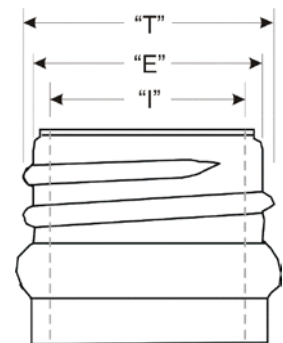

Figure 3: Finish
- For plug inspection image acquisition is performed using on-axis directional diffuse light and a high resolution camera with telecentric optics mounted above the rotating container. The FleX T vision plug inspection is capable of inspection for min and max “I” only (refer to Figure 3). It is not capable of dual-step plug gauging often required for corkage bottles. Dual-step plug gauging can be performed only with the mechanical plug/ring gauging option.
- For ring inspection, image acquisition is performed using diffuse back light (same light source that is used for dip inspection) and a high resolution camera to measure “E” and “T” dimensions (refer to Figure 3) of the container’s finish as it rotates in the station.